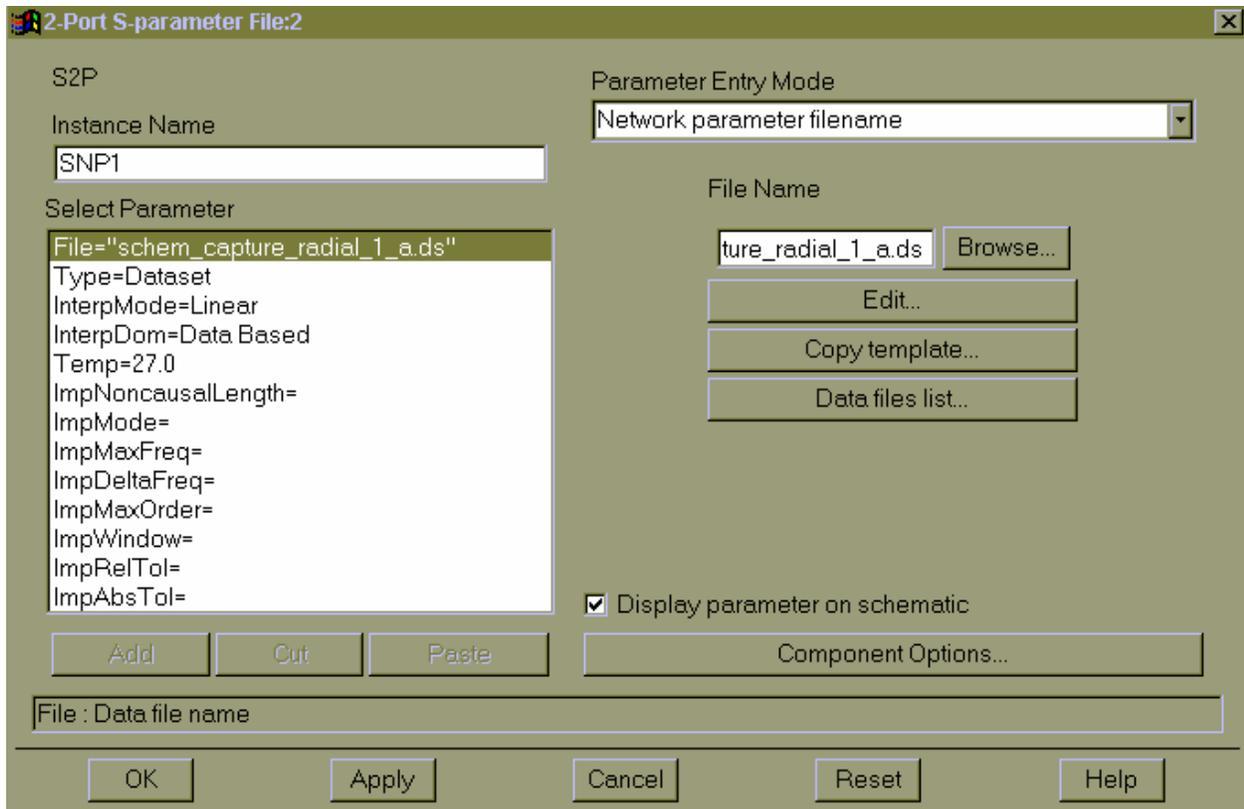

Figure 2. Detailed parameters for the S2P element shown in the previous figure. Notice the 'Type' is set to Dataset, and the filename has the .ds extension.
- iv) The detailed parameters for the S2P element are shown in Figure 2. Note that the Type parameter is set to Dataset.